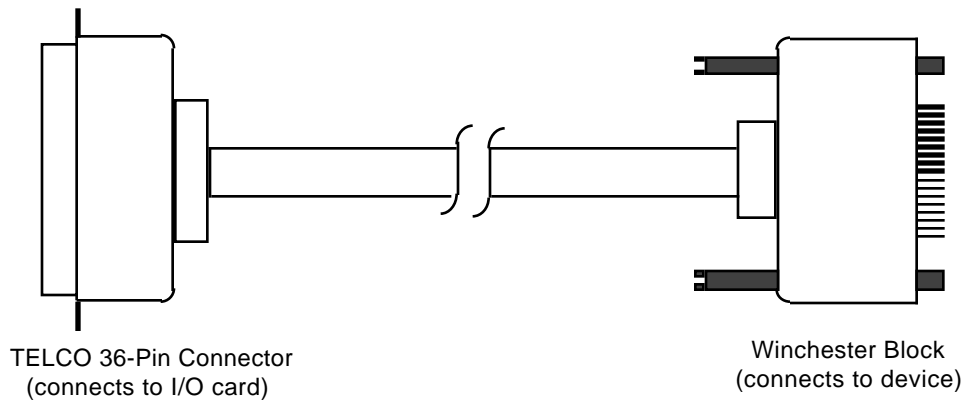
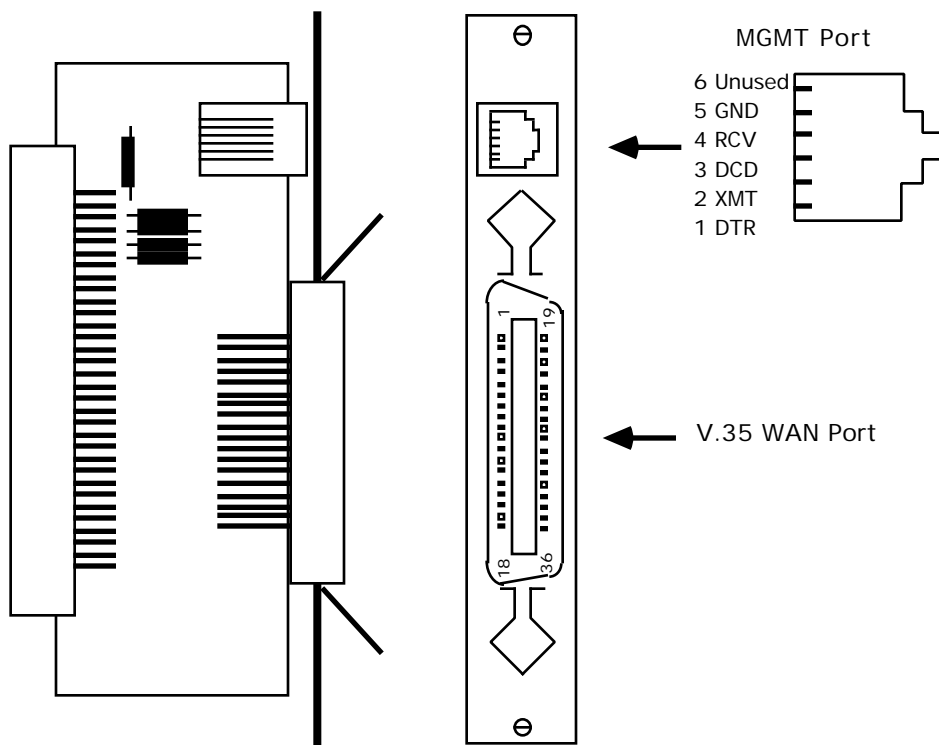

Figure 3-2. Xyplex-Supplied V.35 Cable
Figure 3-3. V.35 I/O Module
- **V.35 cable, 36-pin male TELCO connector to 34-pin male Winchester connector, 4.57 m (15 ft).** This cable is included with the V.35 I/O module. The 36-pin TELCO connector attaches to the V.35 I/O module, and the Winchester connector attaches to the device. Figure 3-2 shows this cable. Table 3-1 describes the signalling scheme for this cable. Figure 3-3 shows the V.35 I/O module.